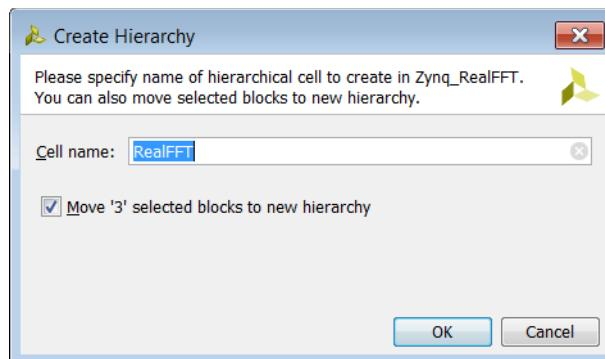

Figure 10-32: Name Hierarchy Block
- d. Ensure that the **Move '4' selected blocks to new hierarchy** option is checked, as shown in Figure 10-32.